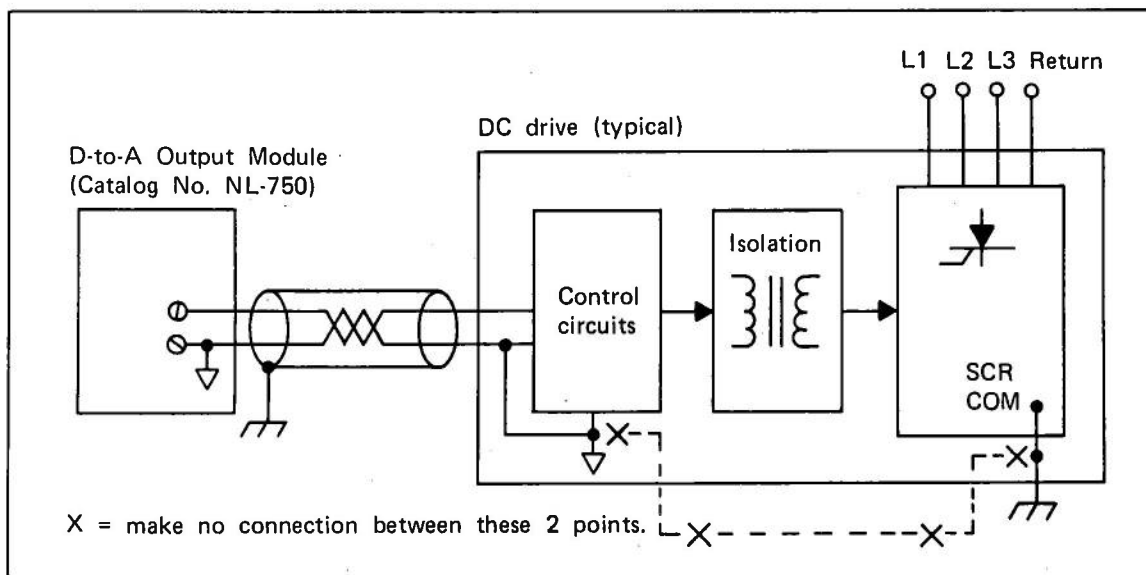

Figure 8 – DC Drive Connections
2. When driving an SCR motor speed control (that is, a DC drive), it is desirable to isolate the Module's D/A output common from the SCR bridge's common. If this practice is not followed, electrical noise produced by the bridge can be coupled into the Module, thus causing its output voltage or current to be at an incorrect level. Since most SCR bridge circuits are generally isolated from control circuits with transformers or optical isolators, it is necessary only to perform proper wiring in order to eliminate this problem. (See Figure 8.)